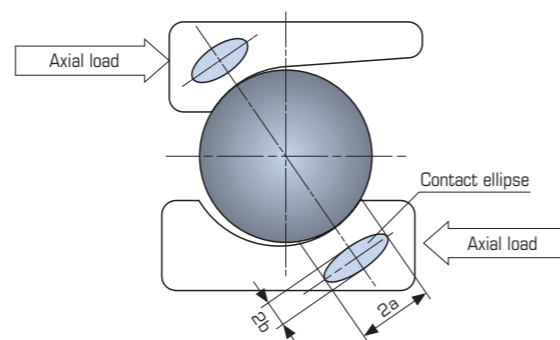

Figure 2.3 Contact Ellipse
- ① Axial load when the contact pressure value between the roller and raceway surfaces is 4200 MPa or less
- ② Axial load causing the contact ellipse formed between the roller and raceway surface to deviate beyond the raceway shoulder (Figure 2.3)